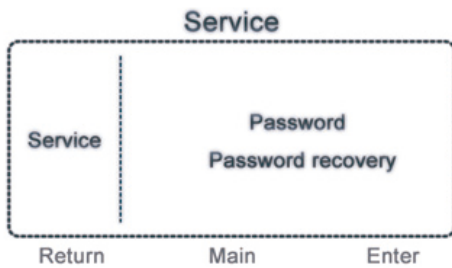
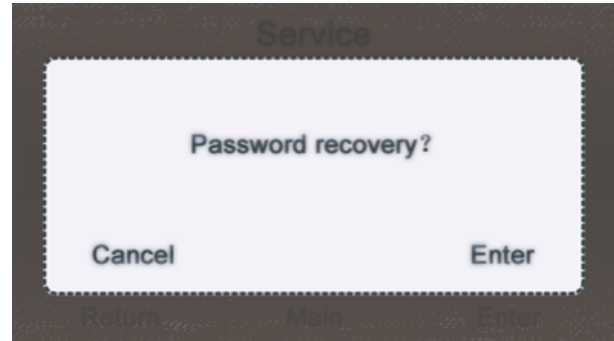

Figure 7
Figure 12
1. Proceed through main interface→Menu→Other→enter password→press "Enter"key→Service Set→press "Enter"key to initiate the setting, which is shown in Figure 7.
A. Select "Password recovery" as shown in Figure 7 and then press "Enter" key to enter the interface as shown in Figure 12; press the left key "Cancel" or the right key "Enter" to cancel this operation or confirm restoration of the initial password.